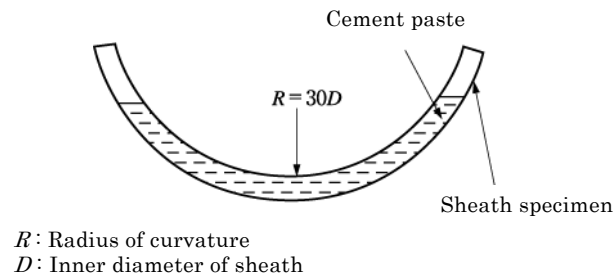

Fig.1 Outline of test
a) Bend the sheath specimen with a curvature radius of 30 times the inner diameter of the sheath and set it in a vertical plane (Fig.1).
**Note (1):** Ordinary Portland cement is used for the cement of the cement paste. No additive is used for the cement paste. Cement paste should be mixed by the same method as for the grout. The cement paste should be poured into the sheath specimen promptly after mixing.